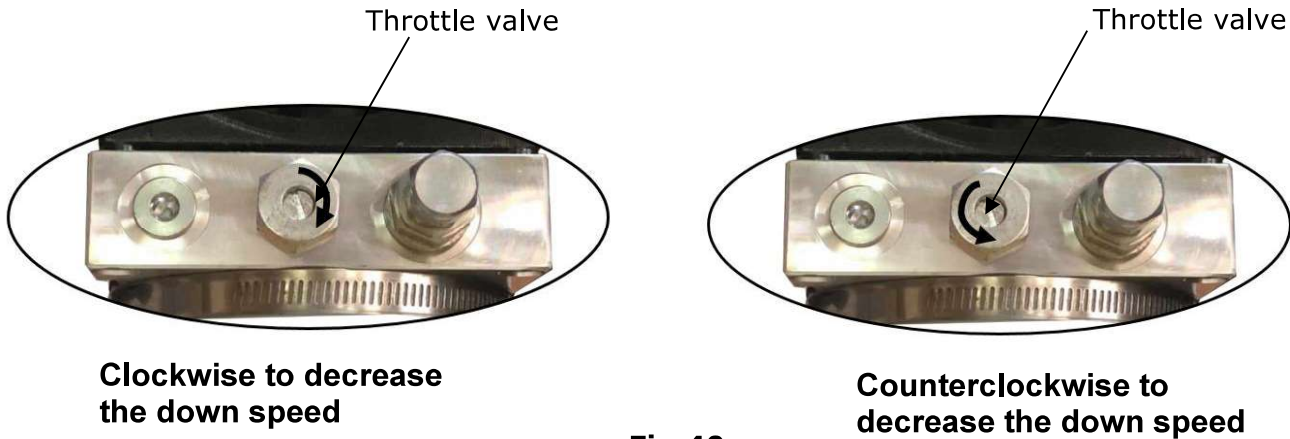

Fig.40
1. Adjust the lower speed (Fig.40)